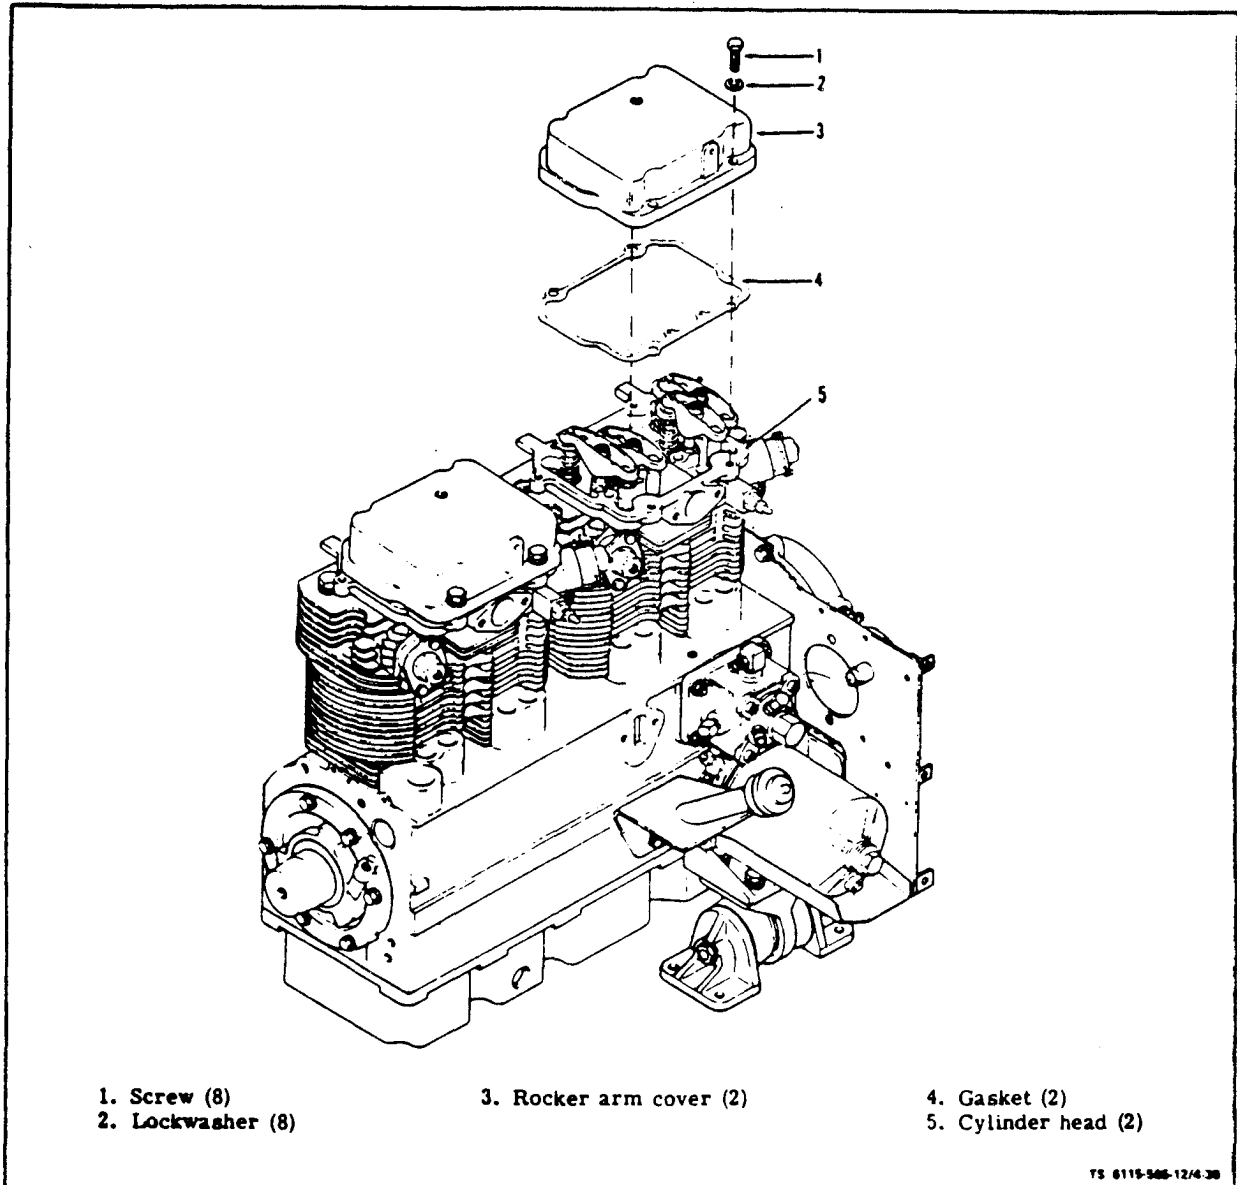

Figure 4-38. Rocker Arm Covers
a. **Inspect** (see figure 4-38). Inspect rocker arm cover (3) for dents or other physical damage. Check for leaks especially at the gasket (4) between cover and cylinder head (5). Check that cover (3) is securely attached to cylinder head with screws (1) and lockwashers (2).
b. **Remove.** Remove shroud (13, figure 3-9) per paragraph 4-17b. Remove four screws (1, figure 4-38) and lockwashers (2) attaching each rocker arm cover (3) to cylinder head (5) and remove cover carefully. Clean gasket (4) from both cover and cylinder head.
d. **Replace.** Place gasket (4, figure 4-38) in position on each cylinder head. Install each rocker arm cover (3) to cylinder head and secure with four screws (1) and lockwashers (2). Tighten screws 7 to 8 ft-lb.